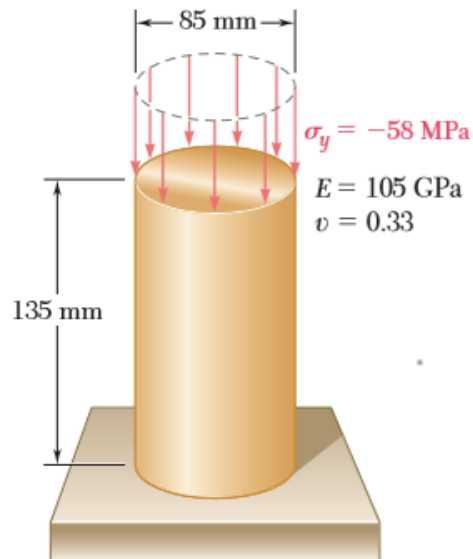

Figure 3a.2 | Axially loaded bar
- a) For the axial loading shown in Figure 3a.2, determine the change in height and the change in volume of the brass cylinder shown.